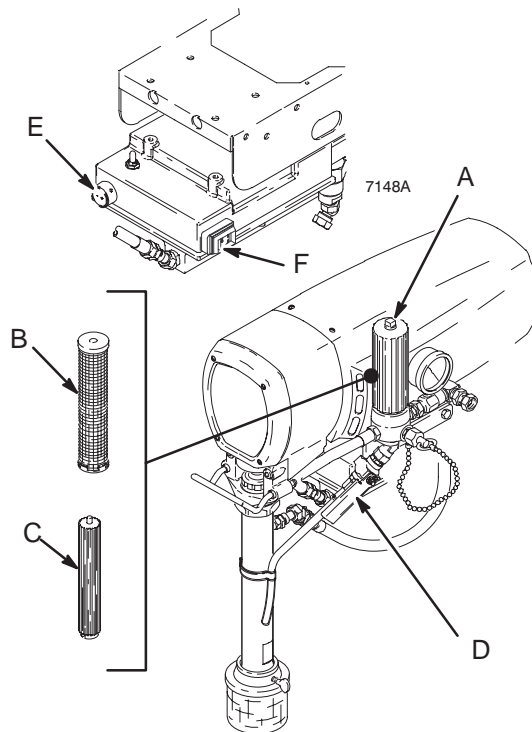

Fig 6
2. Remove filter bowl (A) and screen (B). Install bowl (A) and filter support (C) without screen (B). See Fig 6.
3. Close pressure drain valve (D).
6. Turn pressure adjusting knob (E) counterclockwise to lowest pressure setting.